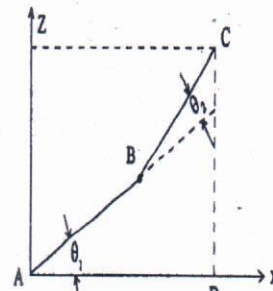

Fig. 1
- (b) Fig. 1 shows a 2-link planer arm. Given that AB = 10 mm, BC = 20 mm, AD = 26.98 mm and CD = 12.6 mm compute the value of θ_2 . If AZ = 15.00 mm and AD = 30 mm, what is the value of θ_1 and θ_2 ?